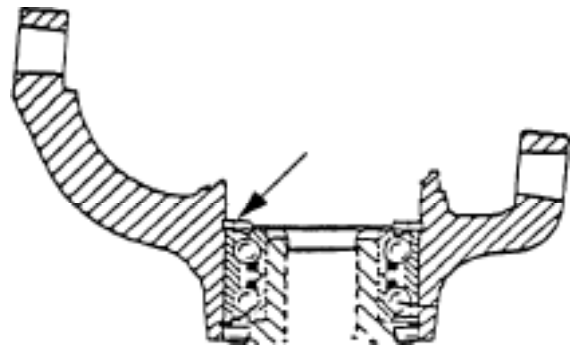

Figure 1. Thoroughly clean the surfaces of the snap ring, snap ring groove in the steering knuckle and the bearing.
2. Remove the inner snap ring. Thoroughly clean the surfaces of the snap ring, snap ring groove in the steering knuckle and the bearing (Figure 1).